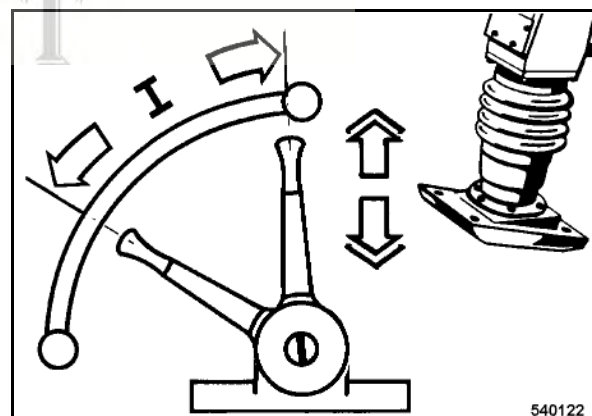

Fig. 19
- In order to achieve a smooth running of the machine adjust the throttle lever in the range (Fig. 19), depending on the condition and the density of the soil.